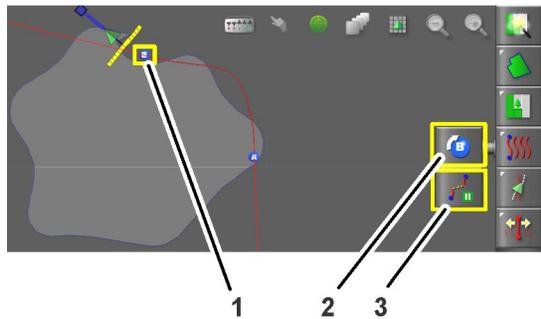

Figure 17
6. Drive the machine along the contour path of the field boundary (Figure 17).
7. Press the Set Point B icon (Figure 17). Point A will display in the control console.